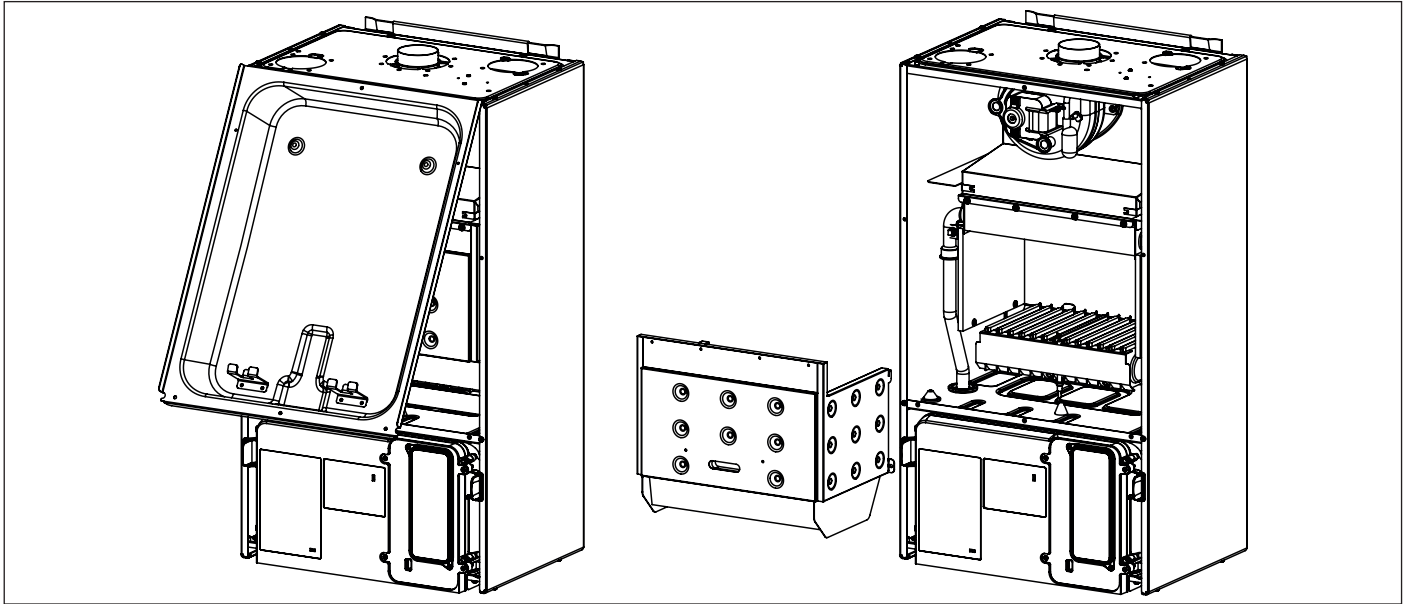

Fig. 23 Combustion chamber removal
- Remove the front panel of the combustion chamber (see Fig. 23 Combustion chamber removal).